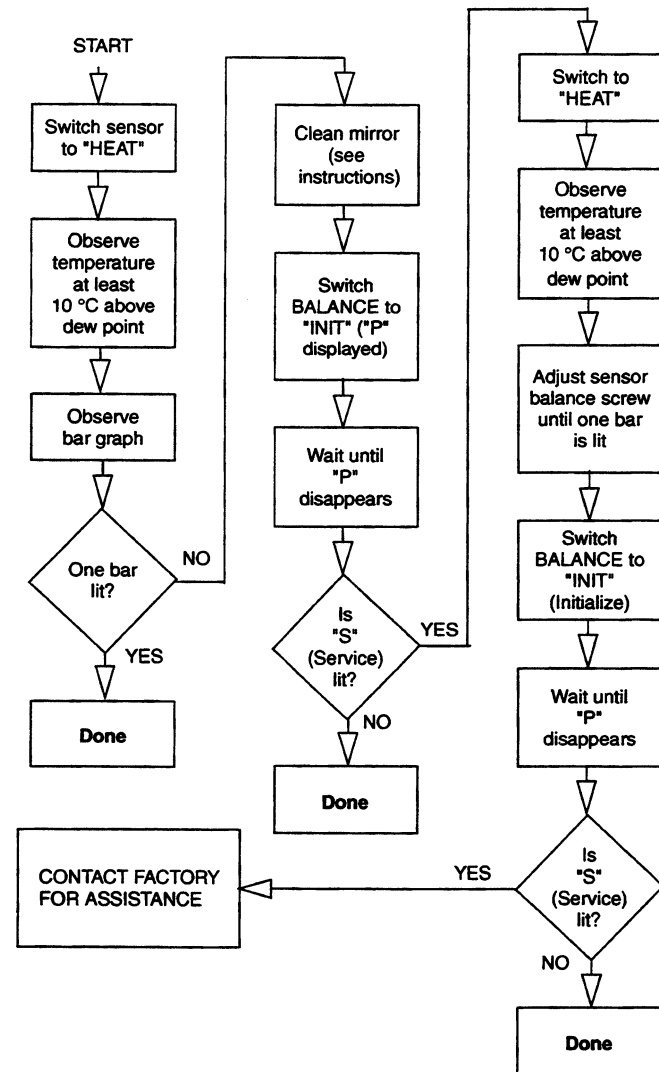

Figure 13 – Mirror Check and Mirror Sensor Balancing Procedure
4. Initiate a Pacer cycle by switching the Balance switch to **INIT**. At the completion of the cycle, the Humilab Chilled Mirror Hygrometer System is properly balanced. Figure 13 on the next page diagrams the complete balancing procedure.